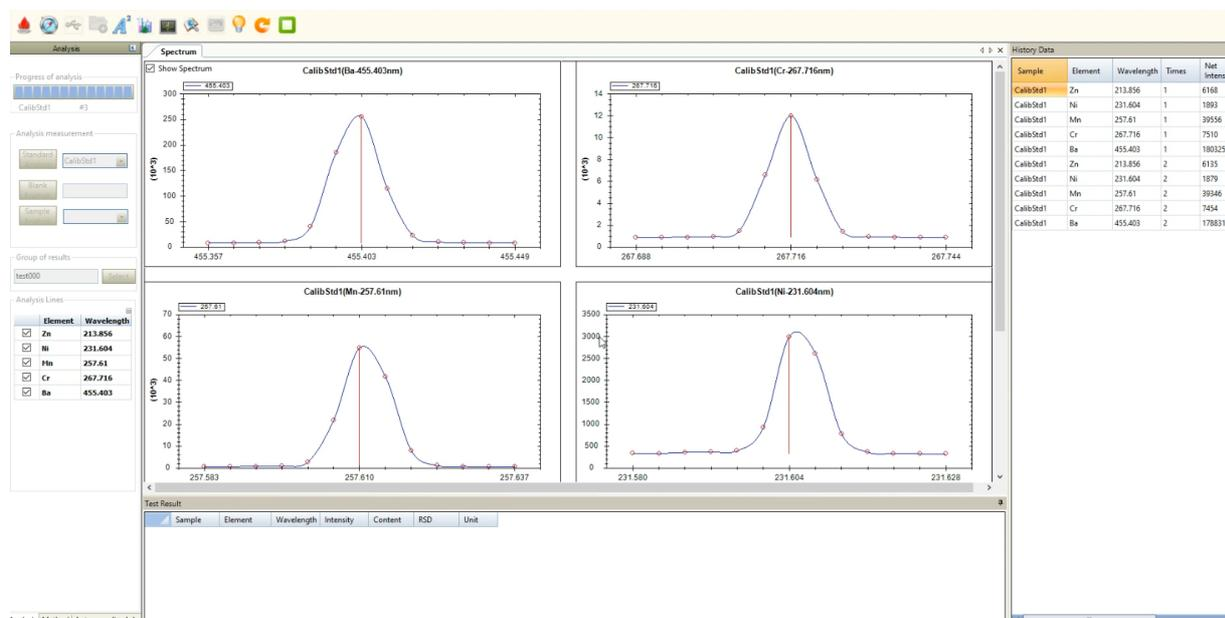

Figure 5.15 The Standard Test Interface
5.5. Select the measurement standard sample in the drop-down box, click "Analysis standard", and the standard measurement is imminent. The real-time measurement map, single measurement data and measurement average data are displayed in the data present window (see Figure 5.15).